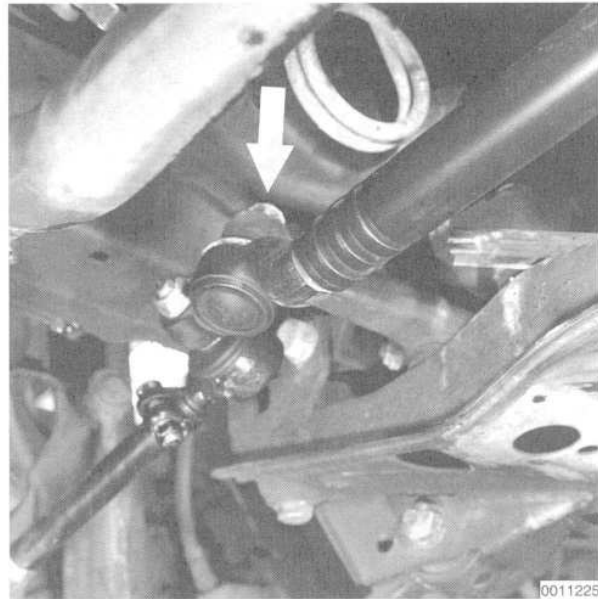

Fig. 4. Center tie rod to pitman arm nut (arrow). Discard self-locking nut.
4. Remove the center tie rod self-locking nut at the pitman arm. See Fig. 4. Then using a press (BMW special tool no. 32 2 040 or equivalent), remove the tie rod from the pitman arm.